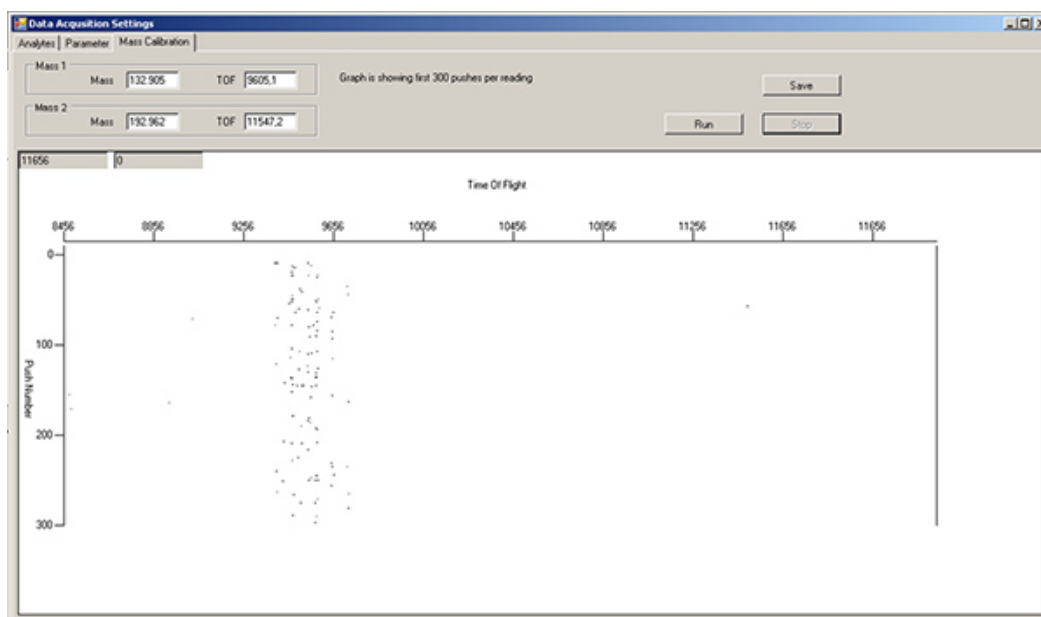

**Figure 2.** CyTOF panel lights after plasma ignited and start-up successfully completed.
8. On the RFG Controller tab of the Instrument Setup window, press "Start Plasma". Since the nebulizer is already inserted, press "OK". The software will turn on the chiller, start the flow of gas, and ignite a plasma. The detector voltage will ramp up. There will be a pop-up window saying "Plasma start-up sequence has finished successfully" when finished; press "OK". New lights should be on in the front panel (**Figure 2**).